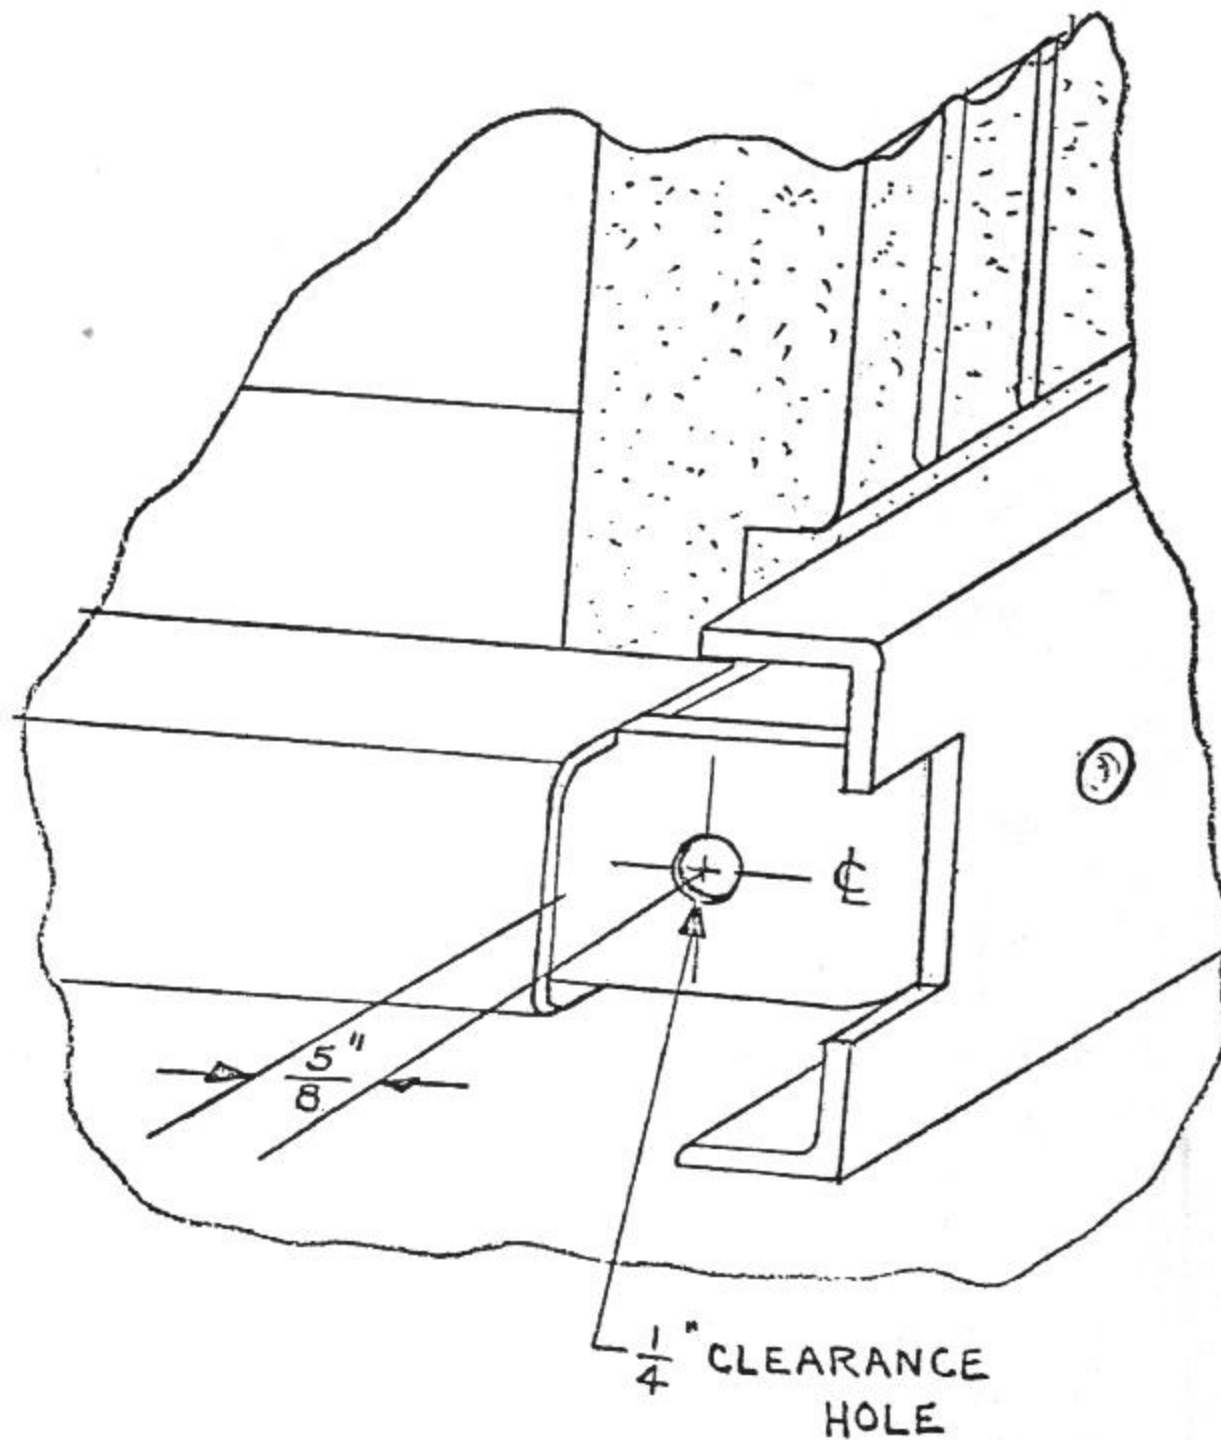

Figure 4
- Fig. 4 - 1. Drill a one-fourth inch clearance hole in the bumper mounting bracket on both sides. Use guide bar as template for hole location as per sketch below.